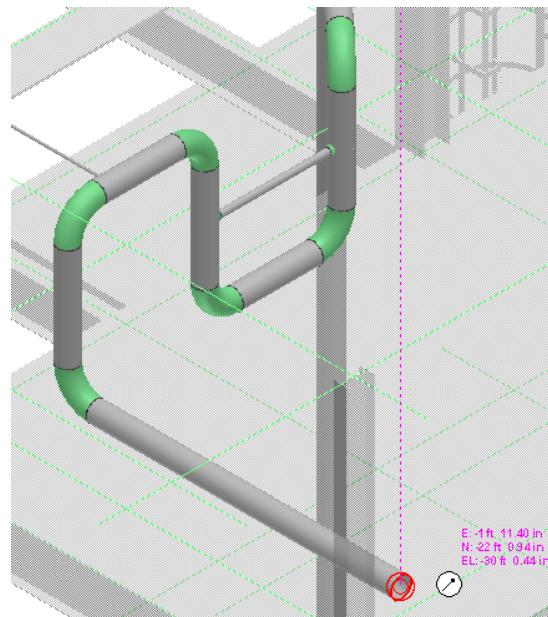

Figure 3.43: Free End of the Pipe
75. Locate the free end of the pipeline 300-W, as shown in Figure 3.43. Click the **Reposition Target** option on the **PinPoint** ribbon and put the target at the free end of the pipe.